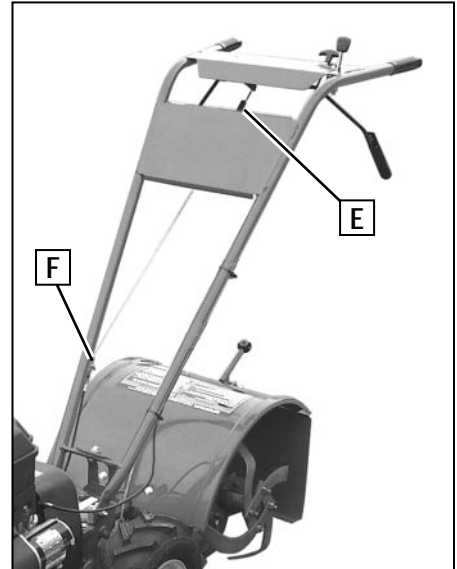
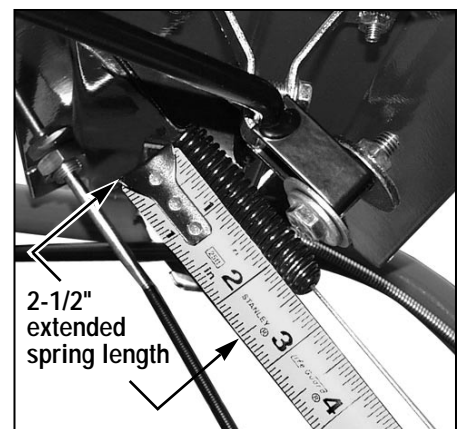
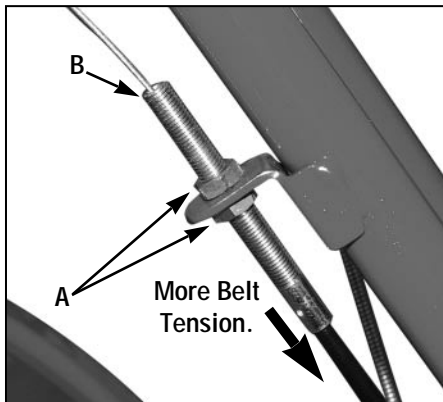

Figure 5-10: Location of forward clutch cable spring (E) and forward cable adjuster (F).
Figure 5-11: Correct spring length when Forward Clutch Levers are engaged is 2-1/2".
Figure 5-12: Move forward clutch cable adjuster down for more belt tension.
2. The coiled part of the forward clutch spring (E, Figure 5-10) measures 2" in length when the Forward Clutch Control levers are not pulled up. Pull either Forward Clutch Control Lever up against the handlebar and measure the length of the coil on the forward clutch spring. Tension is correct if the length of the extended coil is 2-1/2" (see Figure 5-11). The forward clutch control cable needs adjustment if extended length of the coil is less than 2-1/2". See *Adjusting the Forward Clutch Belt* for a procedure. If the extended length is more than 2-1/2", there is no need to adjust as long as the unit operates correctly when moving Forward.
2. Belt adjustments are done with the forward clutch cable adjuster (F, Figure 5-10). Use two 1/2", open-end wrenches to loosen the two jam nuts (A, Figure 5-12) a few turns.
3. Move cable adjuster (B, Figure 5-12) downward for more belt tension (see Figure 5-12).
4. Hand tighten the jam nuts and pull the Forward Clutch Control levers up against the handlebar. Measure the spring coil (Figure 5-11). The extended length of the coil should be 2-1/2". Repeat this procedure until the extended spring length is correct.